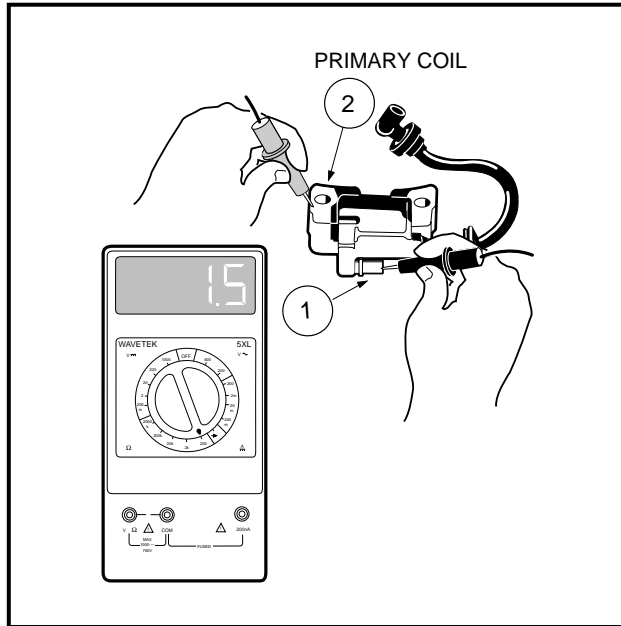

Figure 11-39 Test Primary Coil
- 2.2. If the resistance is not between 0.6 - 1.7 Ω (ohms), remove the coil from the engine. **See Ignition Coil Removal, Section 12 – Electrical Components, Page 12-23.** Retest with a multimeter set on 200 Ω (ohms). Place the black (–) probe of the meter into the terminal on the coil (1), and place the red (+) probe on the core (2) (**Figure 11-39, Page 11-31**). If the resistance is still not between 0.6 - 1.7 Ω (ohms), replace the coil.